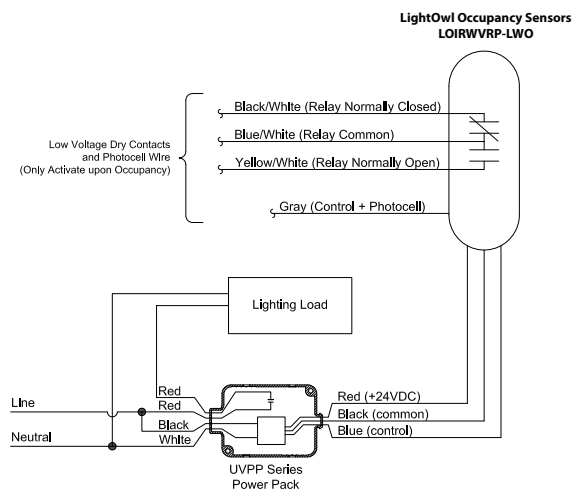

FIG. 3
INSTALLATION OF SENSORS FIG. 3
3. Run 3 conductor low voltage cable (18 to 22 AWG type CL2, CL2P, CL2PR, or CMR as appropriate) from control unit to sensor location(s) per wiring diagram FIG. 3. Maximum cable length between power unit and farthest sensor is 250 feet (76 meters).